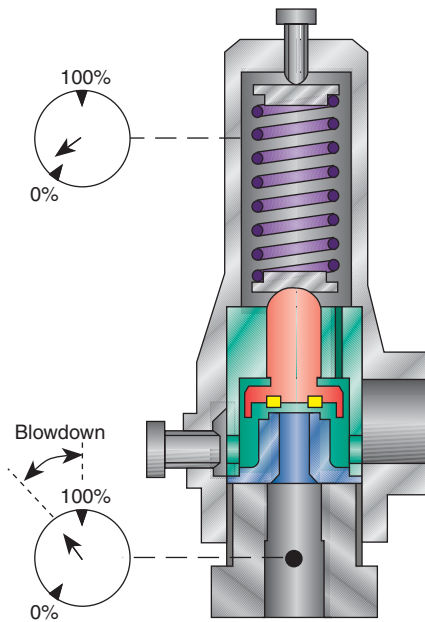

Figure 5
6. At some point, the inlet (system) pressure will drop to a level where the combined spring force and the developed back pressure on the spindle top will overcome the lifting force on the seat area and cause the spindle to start down. As soon as this happens, the pressure in the inner chamber is instantaneously reduced a small amount. This increases the unbalance in a downward direction, and the spindle accelerates downward, causing the valve to close with a snap action (see Figure 5, page 47).